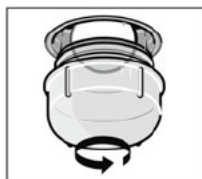

Figure 5
2. Turn the glass cover counterclockwise. (Figure5)